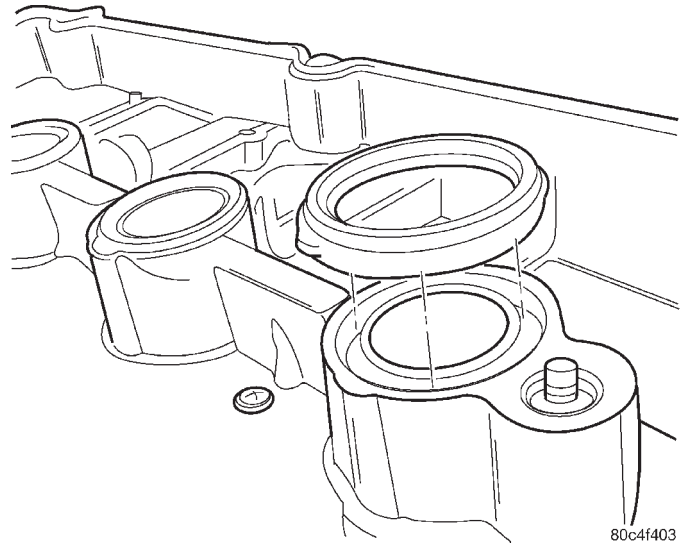

Fig. 30 Spark Plug Well Seals
(1) Install new cylinder head cover gaskets and spark plug well seals (Fig. 30).